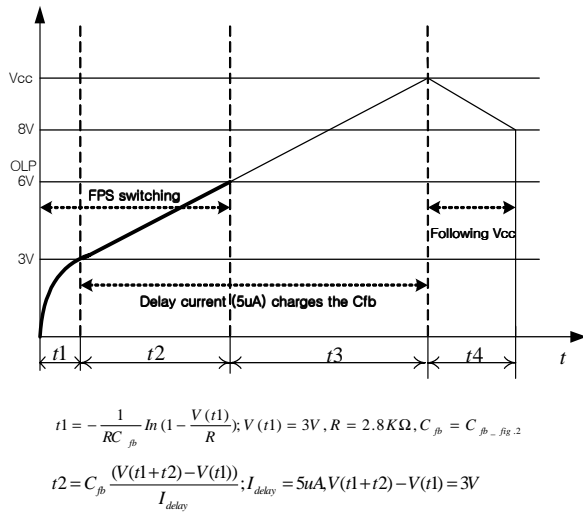

Figure 6. Over load protection
**4.1 Over Load Protection (OLP) :** Overload is defined as the load current exceeding a pre-set level due to an unexpected event. In this situation, the protection circuit should be activated in order to protect the SMPS. However, even when the SMPS is in the normal operation, the over load protection circuit can be activated during the load transition. In order to avoid this undesired operation, the over load protection circuit is designed to be activated after a specified time to determine whether it is a transient situation or an overload situation. In conjunction with the Ipk current limit pin (if used) the current mode feedback path would limit the current in the Sense FET when the maximum PWM duty cycle is attained. If the output consumes more than this maximum power, the output voltage (Vo) decreases below the set voltage. This reduces the current through the opto-coupler LED, which also reduces the opto-coupler transistor current, thus increasing the feedback voltage (Vfb). If Vfb exceeds 3V, the feedback input diode is blocked and the 5uA Idelay current source starts to charge Cfb slowly up to Vcc. In this condition, Vfb continues increasing until it reaches 6V, when the switching operation is terminated as shown in figure 6. The delay time for shutdown is the time required to charge Cfb from 3V to 6V with 5uA.